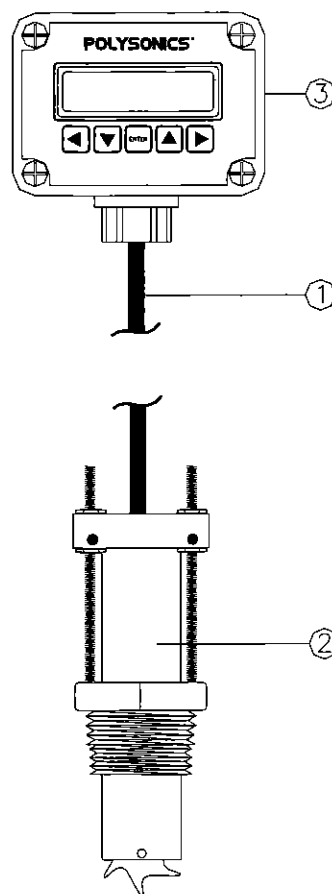

Figure 2-3 System Wiring
The Model 2110M should be connected to twisted, two-wire, shielded cable with a minimum gauge of 24 AWG. The cable ① (Figure 2-3) is run from the sensor ② to the enclosure ③ with a maximum length of 1000 feet (304.8 meters). The wiring should be routed through conduit or cable gland to seal the enclosure.